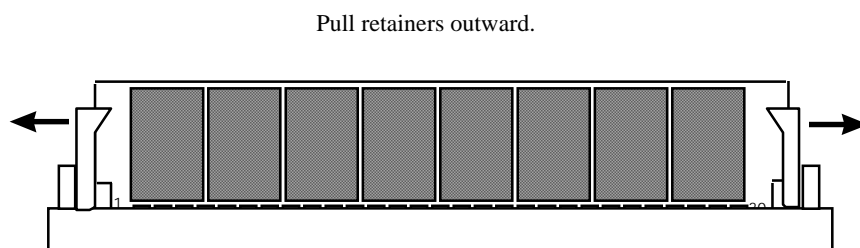

Figure 43 - Removing SIMMs
2. To remove the SIMMs from the sockets, pull the retainers that hold the SIMM outward (see Figure 43).